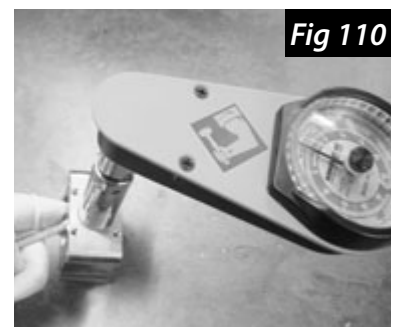

Fig 110
5. Place a new stem lock nut onto the valve stem. Torque nut to 35 in-lbs with a torque wrench and 7/8" socket. Hold the valve stem in place by grasping the base of the stem on the inside of the valve body with a 5/16" or 8mm open-end wrench or an adjustable wrench (Fig 110). **WARNING: Over tightening the stem nut will cause the o-ring to wear prematurely and greatly reduce cycle life. Stem leaks may also result.**